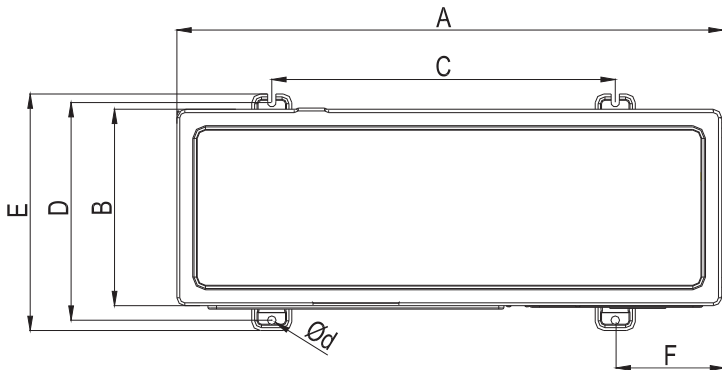

Fig.4.2 The position of anchor bolts
- (1) Use the washer provided in the accessory to fasten the machine at the foundation bolts.
- (2) When fasten the outdoor unit with the foundation bolts, the fasten holes position as the Fig4.2.